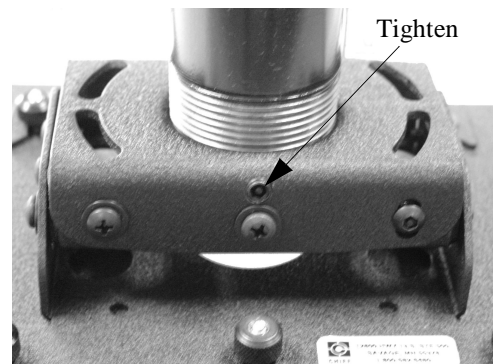

Figure 3. Tighten Set Screw
2. Using Allen wrench provided, tighten the set screw to lock the RPA in position (see Figure 3).